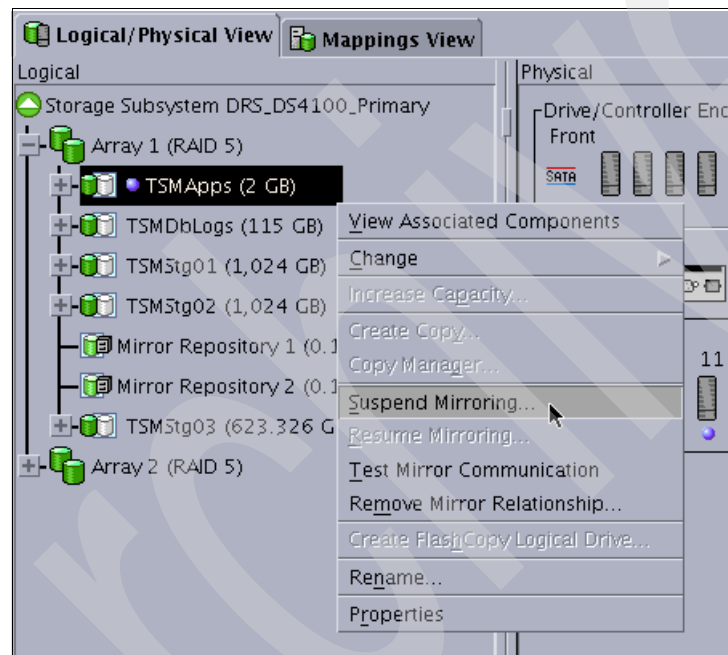

Figure 13-40 Suspend Mirroring
1. Select a logical drive in the Logical View of the primary storage subsystem, and then select the **Logical Drive** → **Remote Mirroring** → **Suspend** drop-down menu option or select **Suspend Mirroring** from the context menu (Figure 13-40).